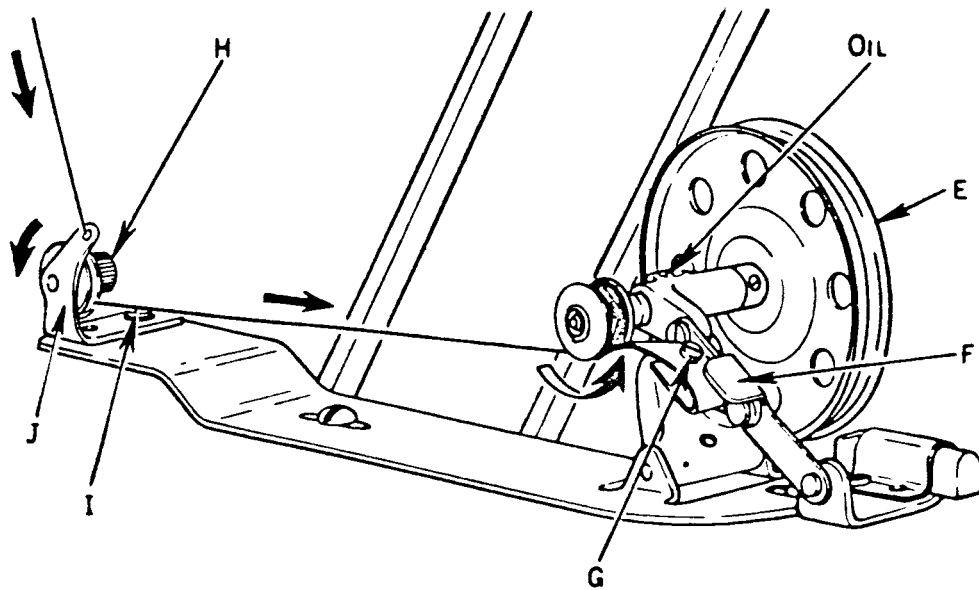

Fig. 4
Place the bobbin on the spindle, pushing it on as far as it will go and pass thread through threading points, as shown in Fig. 4.
Wind end of thread around the bobbin a few times. Press down on the thumb latch (F), pushing the driving pulley (E) over against the belt, as shown in Fig. 4. Start the machine.
When winding a bobbin with fine thread, a light tension should be used. Adjust the knurled nut (H, Fig. 4), to regulate the tension.
Note: Occasionally apply a few drops of oil to the oil well, shown in Fig. 4, on top of the bobbin winder frame.